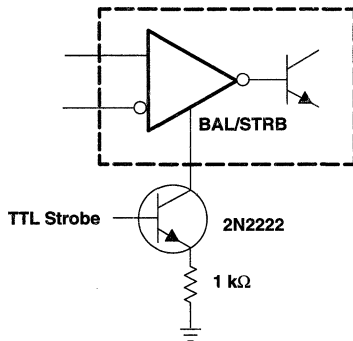

Figure 13. Strobing
6. The strobe should not be shorted to ground; it should be current driven at -3 mA to -5 mA (see Figures 13 and 27).